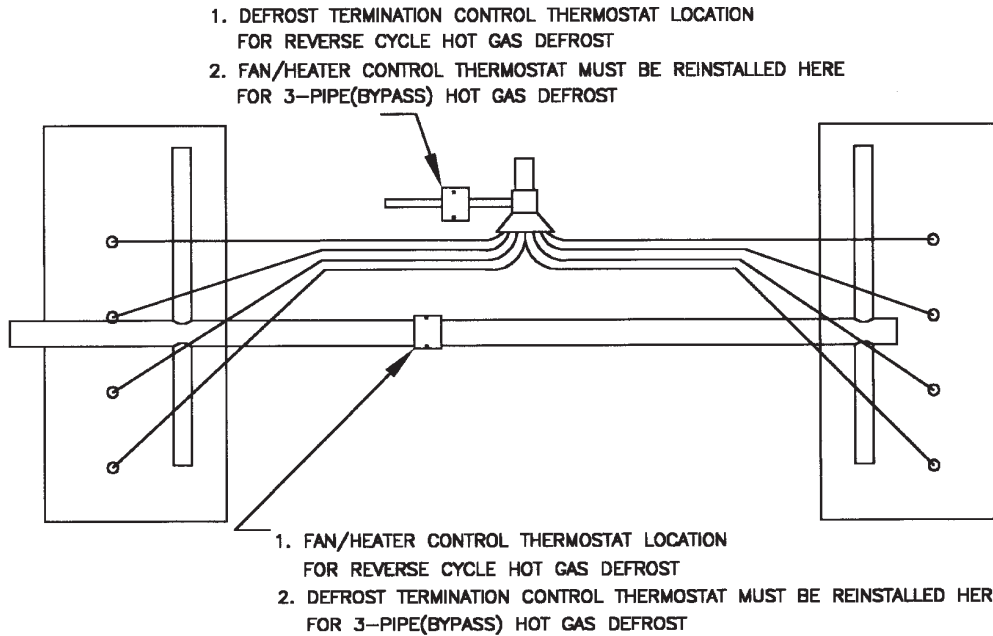

FIGURE 1
3. Fan/Heater control and defrost termination control is factory installed for reverse cycle defrost operation. Refer to Fig. 1 on page 12.
4. If coil is to be used for 3-pipe (bypass) Hot Gas Defrost, Fan/Heater must be moved from suction line to hot gas inlet line and the defrost termination control moved to the suction line. Refer to Fig. 1 on page 12.